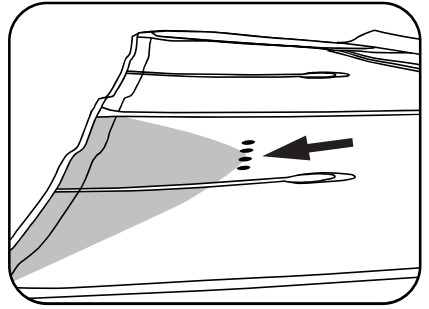

Figure 2: With the leech lying on the ground, downhaul until the looseness extends to the four dots.
- b) Then, downhaul until the looseness on the leech extends to the four dots printed on the leech (figure 2).